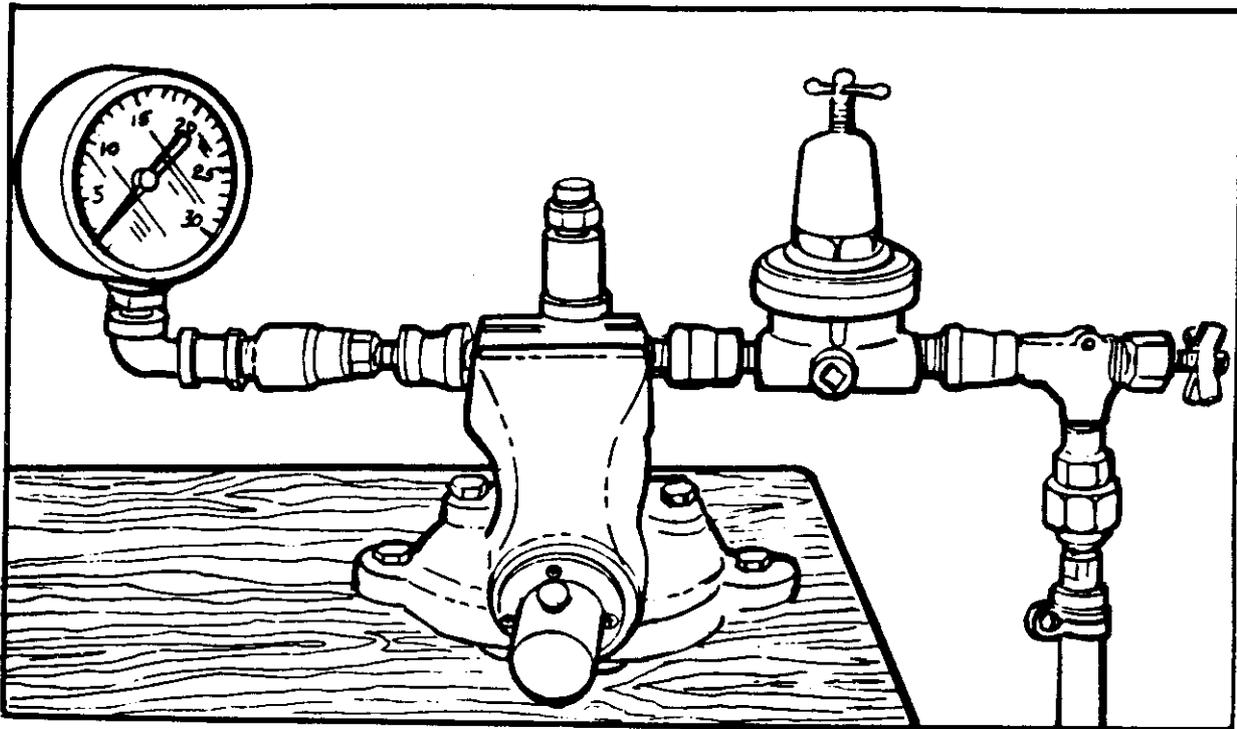

Figure 5. - Fabricated Test of Pressure Relief Valve, Type I container.
- d. Pressurize Type I container to 10 +/- 1/2 psi. (Fig 5)